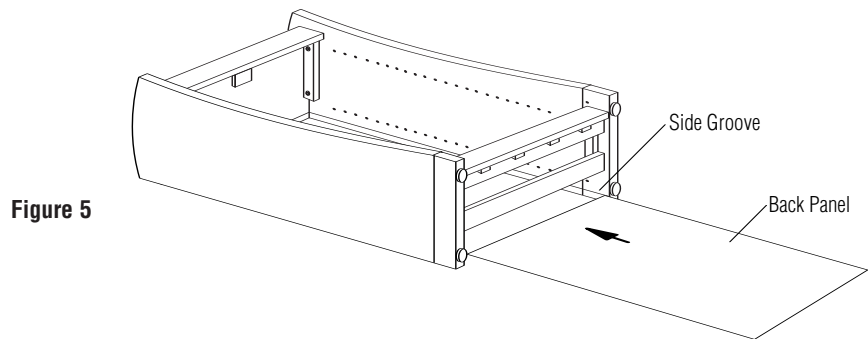

Figure 5
9. For optional back panel, slide the back panel into the side grooves of the assembled units and slide into the top groove. Insert #8 x 5/8" screws into the groove directly below the back panel to keep the panel raised off the floor (Figures 5 & 6).